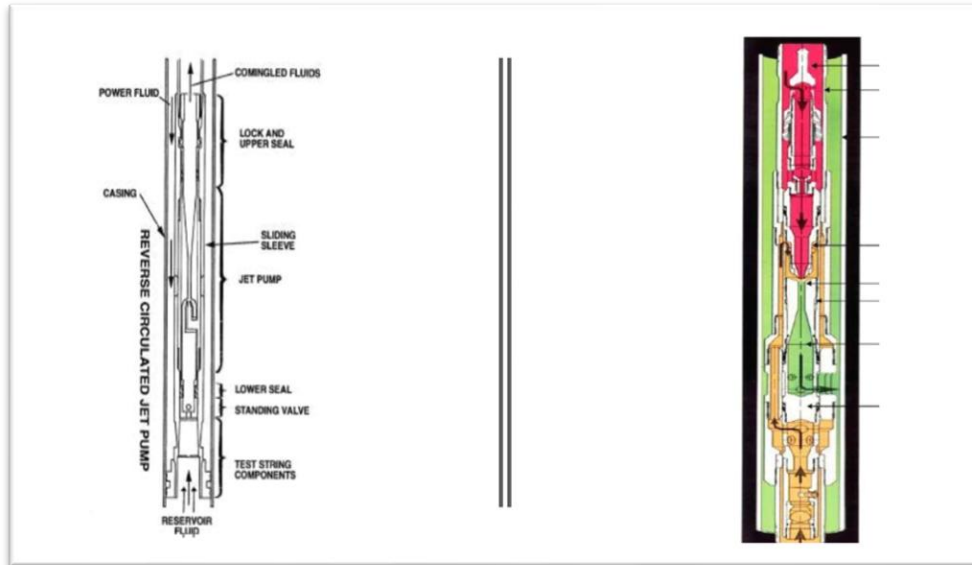

Figure 15: Conventional Standard Flow Jet Pump (left) and Standard-High Flow Jet Pump
- When even higher production rates with high sand concentrations are expected (more than 4,000 bfpd), the best option to minimize jet pump assembly damage is to install a high flow jet pump system. On the high flow jet pump assembly, the intake passages are not in the jet pump, but in the BHA. With a significantly large cross-sectional area, the BHA can accommodate larger intake ports, which translate into lower flow velocities through the passages. See figure 15.